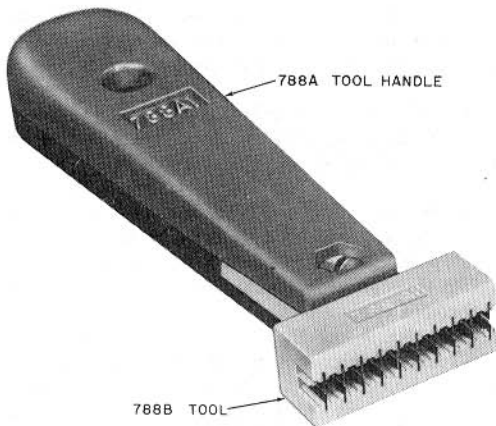

Fig. 10—5-Pair Insertion Tool
**2.15** The 5-pair insertion tool (Fig. 10) consists of the ♦788B2♦ tool head mounted in the 788A1 tool handle. The tool head is used to seat five cable pairs at one time or to insert 3- or 5-pair connecting blocks on the index strip of the wiring block.